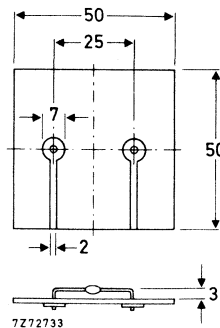

Fig. 2 Mounted on a printed-circuit board.
2. Thermal resistance from junction to ambient when mounted on a 1,5 mm thick epoxy-glass printed-circuit board; Cu-thickness $\geq 40\text{ }\mu\text{m}$; Fig. 2 (see "Thermal model")